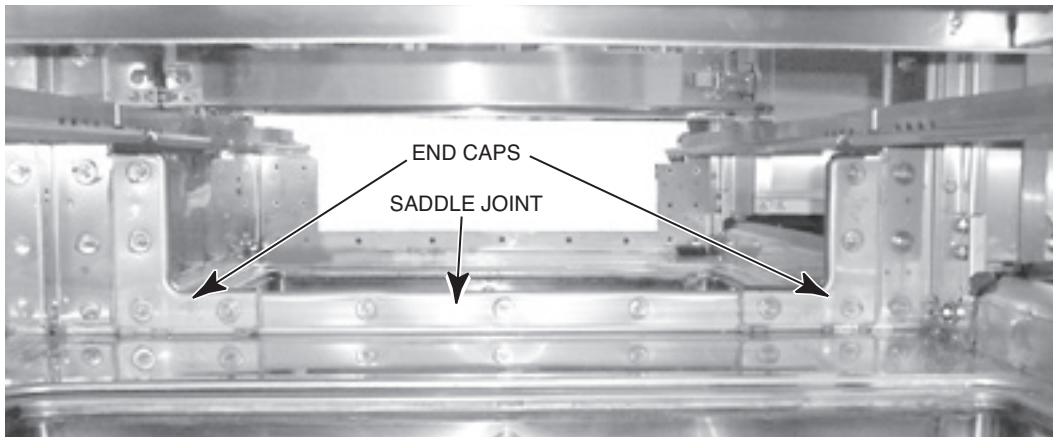

Fig. 18
9. Bolt end caps through saddle joint slots and chamber flange holes (long bolts, nuts, washers and lockwashers are provided) (Fig. 18). Use Permugum on inside of washers on both sides to make an adequate seal.